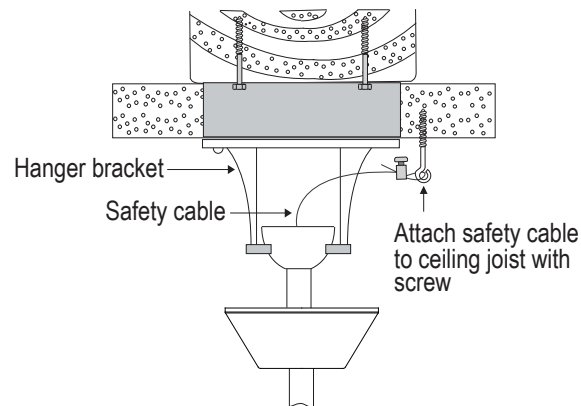

Fig. 10
Step 6. Hang the fan on the hook of the hanger bracket. Be certain that the canopy is fully locked into hook as shown in Fig. 10. This will allow you to make the electrical connections.
Step 1. Attach the provided wood screw and washers to the ceiling joist next to the mounting bracket but do not tighten. (Fig. 10)